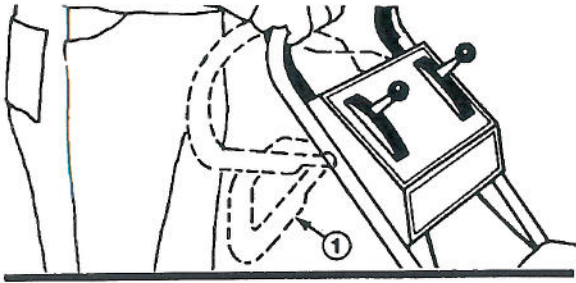

Figure 9
2. To engage blade, move control bar down until it stops (Fig. 9), then move control bar